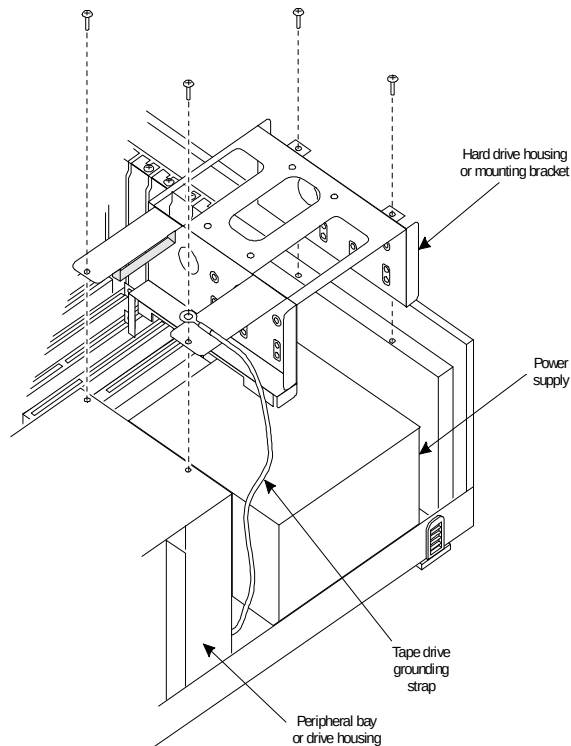

Figure C-13. Removing the Second Hard Drive Housing or Mounting Bracket
To remove the hard drive housing, refer to Figure C-13 below and complete the following steps:
Ensure that the tape drive grounding strap is secured under the front outside mounting screw as shown in Figure C-13 above.
3. Refer to Figure C-13. Remove the two screws on each side of the drive housing that secure the floppy diskette drive tray. Set aside for use again.